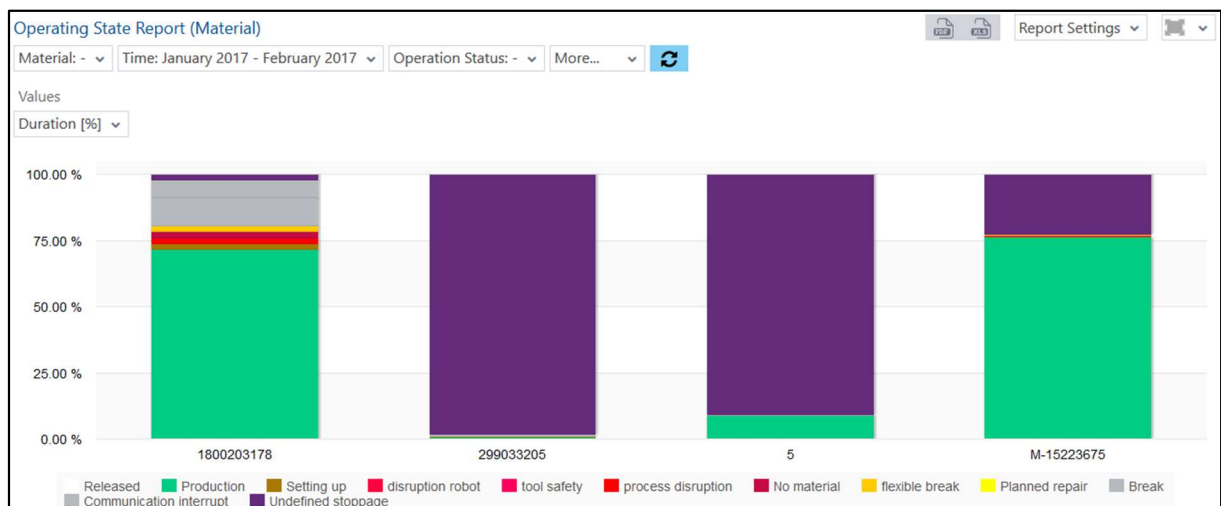

Fig. 67: Operating State Report (Material) as a column chart
- Operating State Report (Material) as a column chart (Fig. 67):